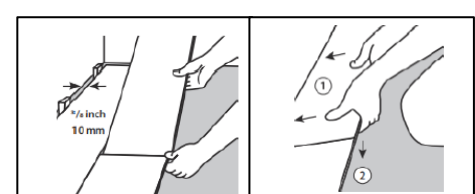

Figure 4
14. Install the second plank of the second row by installing its short edge to the previous row's groove. Hold a plank at approximately a 30-degree angle and connect short end joints together about half-way down the width of the short edge. Before lowering the right edge of the plank, slide it forward towards the previous row. Install the remaining planks and rows in the same manner (**Figures 4**).